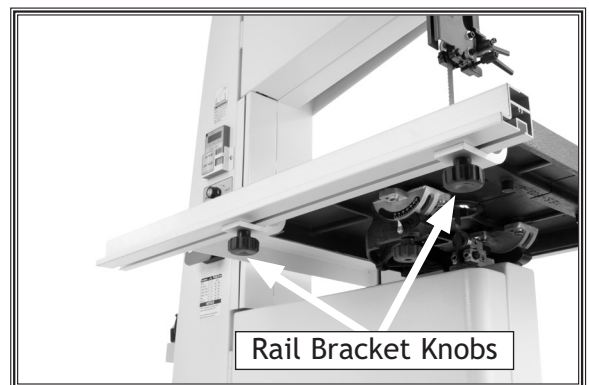

Figure 15. Front fence rail attached.
11. Slide the front fence rail T-slot over the T-nuts, as shown in **Figure 15**, then position the front fence rail brackets even with the rear fence rail, and tighten the knobs.